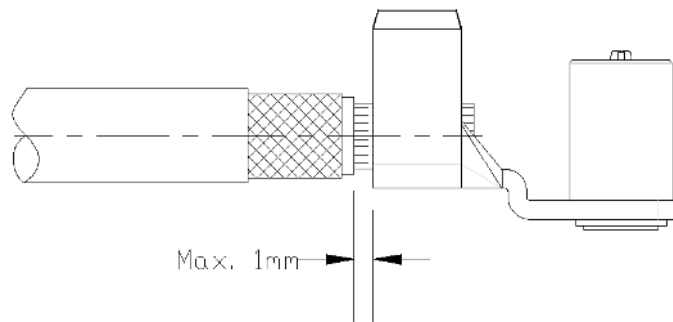

Figure 2
- A max. air gap of 1 mm is allowed between the shoulder of the cable insulation and the rear end of crimp barrel shown in figure 2.